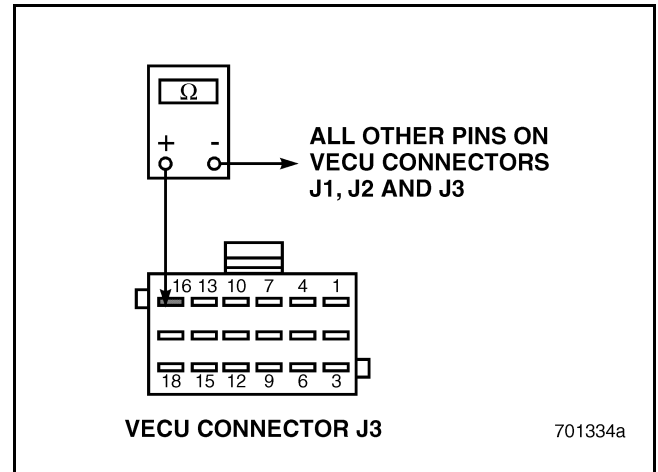

Figure 712
3. Check for continuity between VECU connector J3 pin 16 and all other pins on VECU connectors J1, J2 and J3 (see Figure 712).